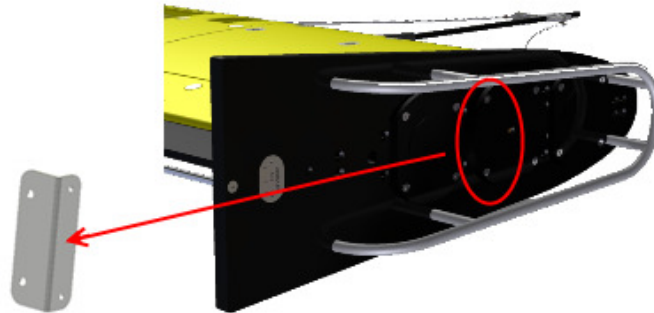

Figure 102 Internal side bracket
6. **Note:** Removing the two screws inside the red circle shown in Figure 102 loosens a bracket inside the ScanFish III. Keep the bracket, as it must be remounted later.